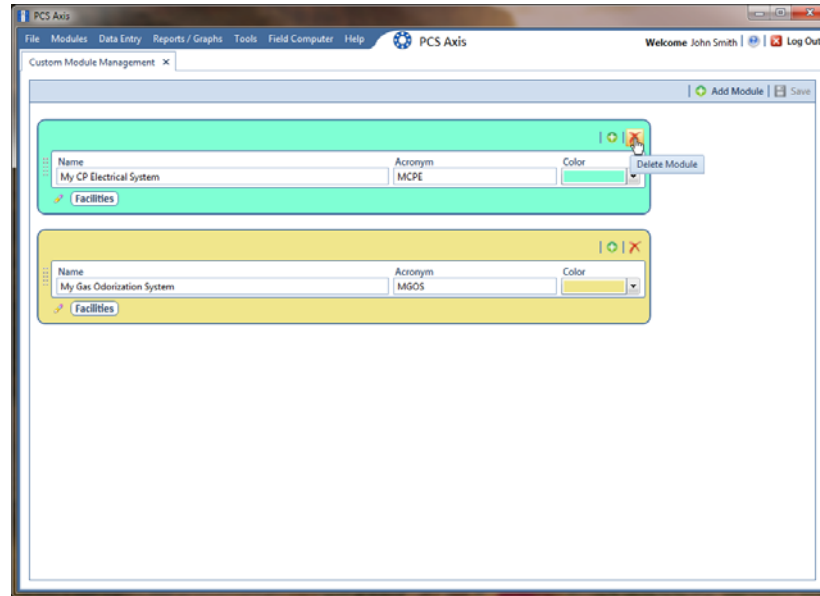

Figure 3-83. Custom Module Management
- 3 Click the  delete button for the user defined module you want to delete (Figure 3-83).